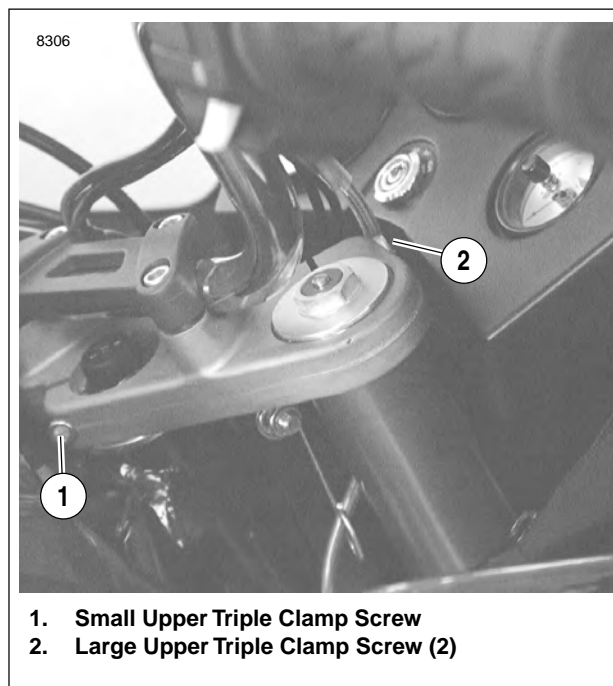

Figure 2-58. Front Fork
2. See Figure 2-58. Spread LOCTITE ANTI-SEIZE on the last three threads of all five triple clamp pinch screws. Loosely install triple clamp fasteners. If removed, small screw (1) installs at rear of upper triple clamp.